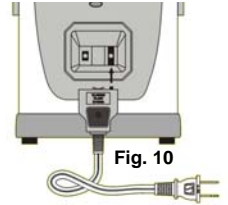

Fig. 10
1. Unplug the power cord from the wall outlet. (Fig. 10)